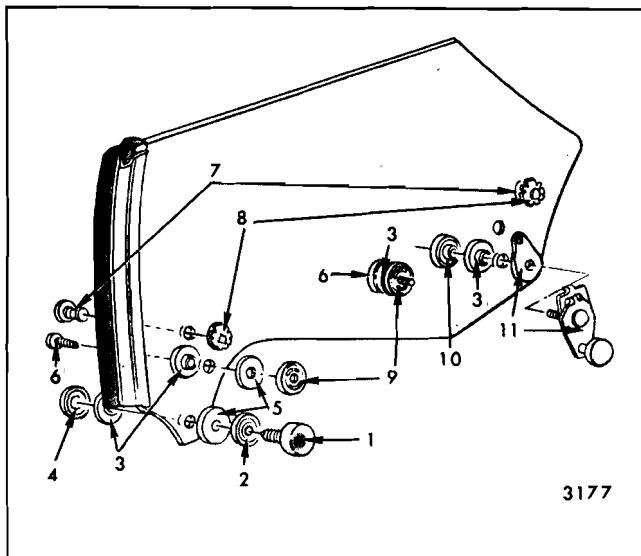
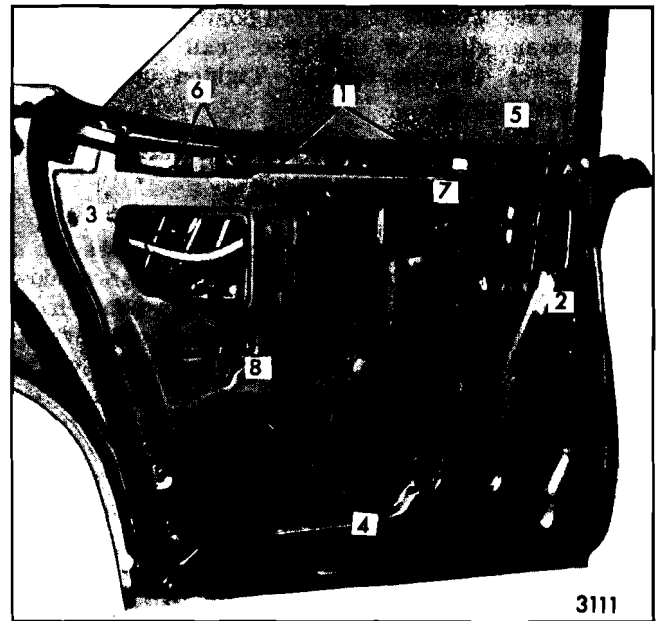
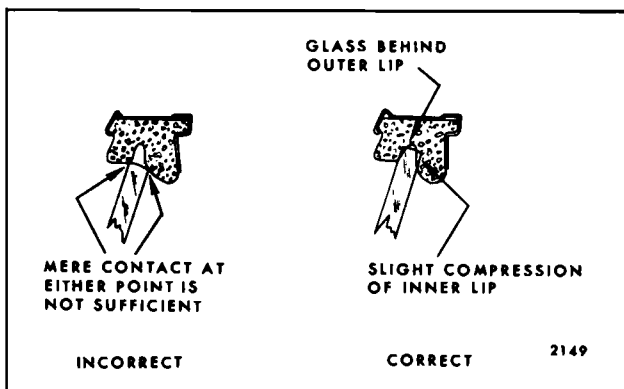

Fig. 6-123—Rear Door Window Assembly - "B-39" and "C-39, 49 and 69" Styles
Fig. 6-124—Rear Door Removal and Adjustments - "B-39" and "C-39, 49, and 69" Styles
Fig. 6-125—Window to Side Roof Rail Weatherstrip Alignment
Figure 6-123 is an exploded view of the window assembly and identifies the various components and their assembly sequence.
2. Remove front and rear window stabilizer strips ("1", Figure 6-124).
3. Remove front and rear window up-travel stops ("2", and "3", Figure 6-124).
4. With window in a three-quarter-down position, remove lower sash channel cam to glass attaching stud nuts ("4", Figure 6-124). Lift window upward and remove from door.
1. In-and-out adjustment of the glass is controlled by the in-and-out adjustment available at the top of the front and rear guides ("5" and "6", Figure 6-123) and the in-and-out position of the glass stabilizer strips ("1", Figure 6-123).
2. Fore-and-aft adjustment of the window assembly is controlled by the position of the front guide. The upper attaching locations in the front guide upper support ("7", Figure 6-124) are slotted to permit fore-and-aft adjustment of the guide. Because the roller assembly (bell-crank, Figure 6-123) which attaches to the glass at the rear pivots, the rear guide does not have to be adjusted during fore-or-aft window alignment.
3. Ease of window operation and window stability depends to a great extent on the adjustment of the window stabilizer strip assemblies ("1", Figure 6-124).
4. A window that is rotated (cocked) in the window opening may be the result of an improperly adjusted inner panel cam ("8", Figure 6-124) or poorly adjusted up-travel stops ("2" or "3", Figure 6-124).
5. The up-travel of the window is determined by the adjustment of the front and rear up-stops "2" and "3", Figure 6-124). To adjust window up-travel, loosen front and rear up-stops and operate window to desired position to establish proper glass to side roof rail weatherstrip contact (Figure 6-125). Tighten up-stop attaching bolts.